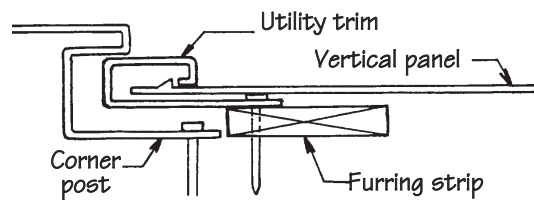

Figure 58.
- If the panel is cut on the flat surface, install utility trim, backed by furring, into the J-channel. Punch snap locks along the cut edge of the panel at 6" intervals and snap it into the utility trim (Fig. 58).